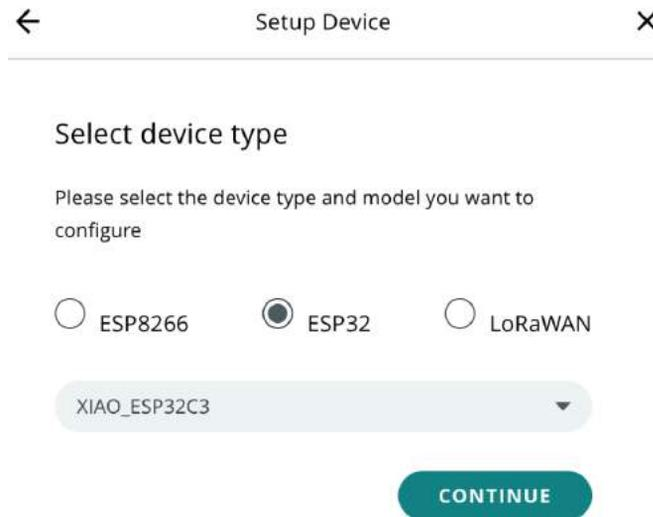

Figure 10.9 – Device selection wizard
4. Select **ESP32** and **XIAO_ESP32C3** from the dropdown and click on the **CONTINUE** button shown in *Figure 10.9*.